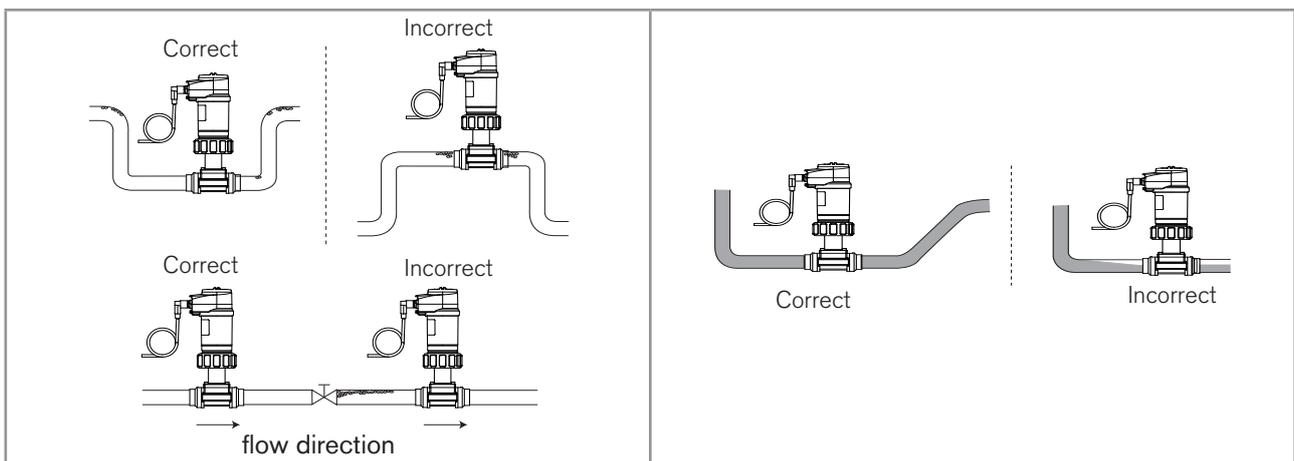

Fig. 8 : Air bubbles within the pipe / Filling of the pipe
- air bubbles do not appear in the pipe, in the section around the sensor (Fig. 8).
- the pipe is always filled in the section around the sensor (Fig. 8).
- air bubbles do not appear in the pipe, in the section around the sensor (Fig. 8, chap. 8.2.1).
- the pipe is always filled in the section around the sensor (Fig. 8, chap. 8.2.1).